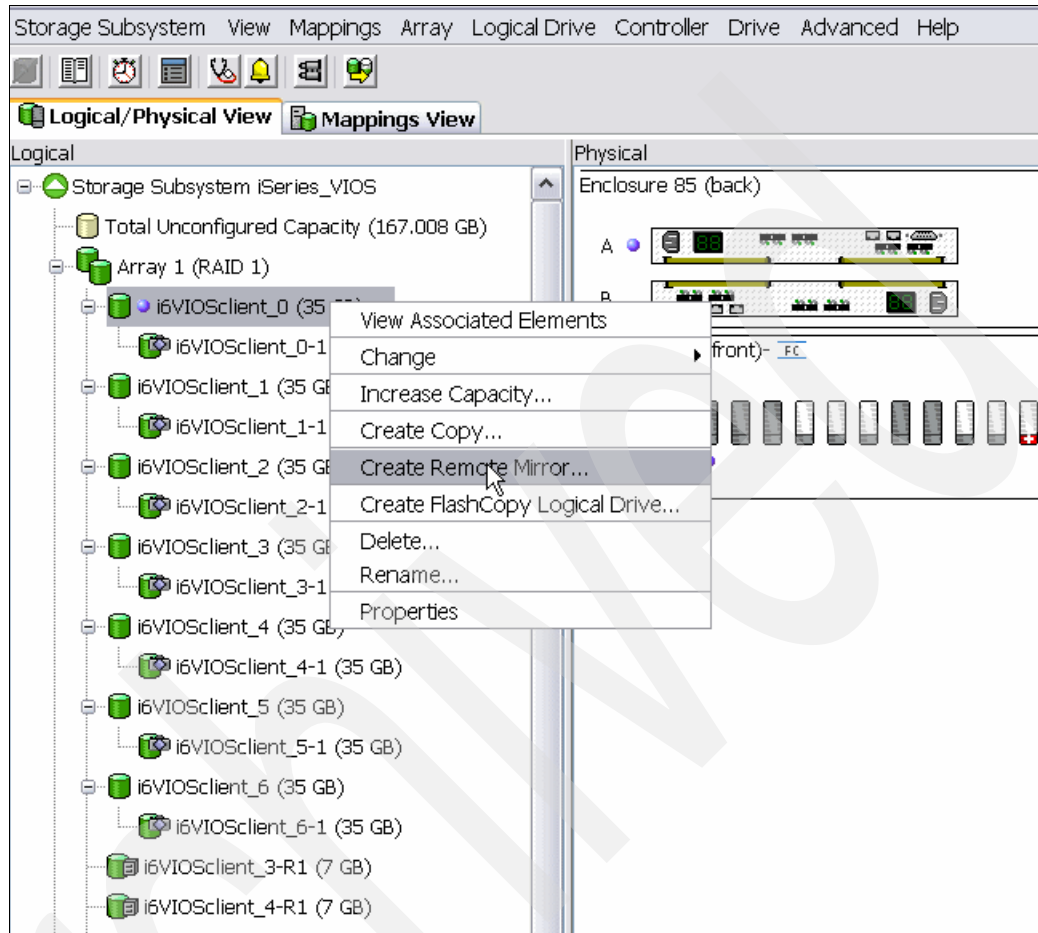

Figure 8-32 Create Remote Mirror
- To start metro mirroring of a logical drive right-click the logical drive in the Subsystem Management window Logical / Physical view and select **Create Mirror** from the pull-down, as shown in Figure 8-32. This invokes the wizard to create the remote mirror replication.